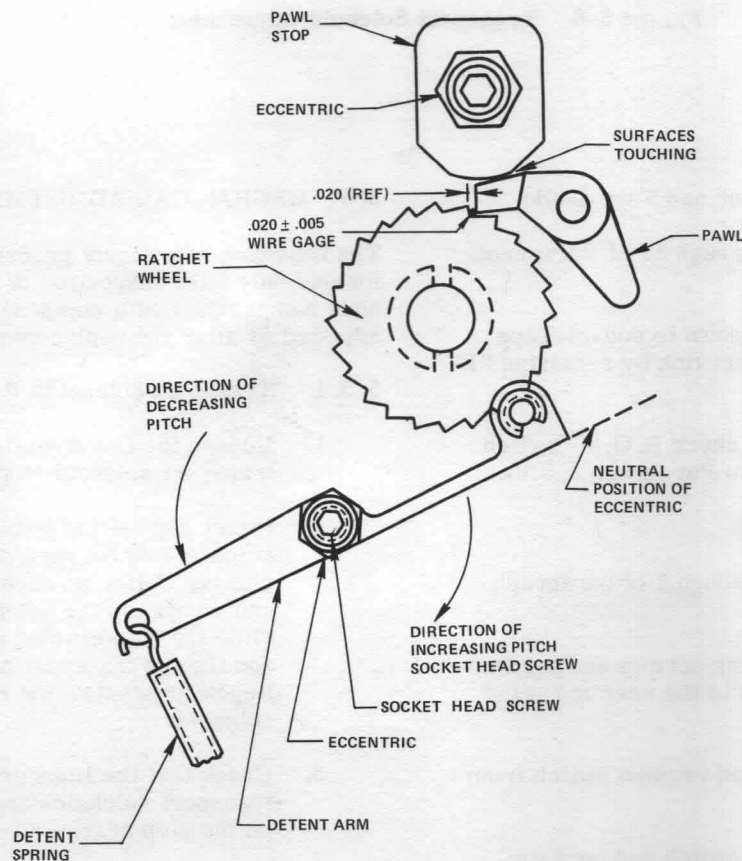

Figure 5-7 Detent Adjustment
1. With the gap setting fixtures properly positioned on each solenoid, place the detent mechanism to the neutral position by loosening the socket head screw and adjusting the eccentric as illustrated in Figure 5-7.
1. Insert the gap setting fixture between the stop bracket and stop damper on each solenoid and insert the .020 tolerance pin as illustrated in Figure 5-7.
5. Loosen the socket head cap screw and rotate the hex head on the eccentric cam (Figure 5-7). To increase the pitch, rotate the eccentric clockwise. To decrease the pitch, rotate the eccentric counterclockwise. (Ensure socket head cap screw is tightened prior to running the punch).
9. Loosen the socket head cap screw (Figure 5-7) and rotate the eccentric slightly. Adjustment can be made visually by viewing the tape in the area between the die block and tape holddown bracket. When the tape is running smoothly in this area, the holes being punched will appear to be strobing and the adjustment should be correct. Tighten the socket head cap screw.